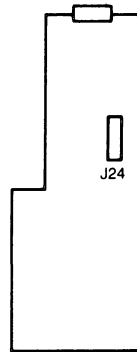

Figure 5.30 J24 Location
1. Unplug the cable connector from J24 on the secondary control panel cut any ties securing the cable (see Figure 5.30).